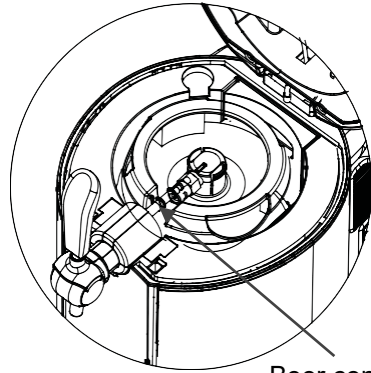
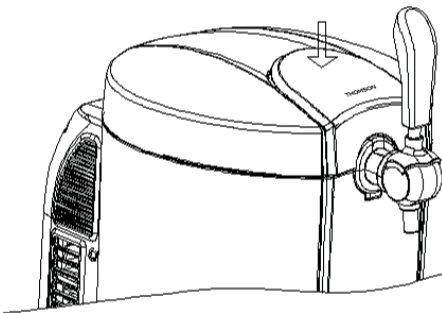

Figure 10
Figure 11
1. Open the top cover by pressing the door lock (Figure 11). Place the well-assembled keg into the cooling cavity (Figure 10).